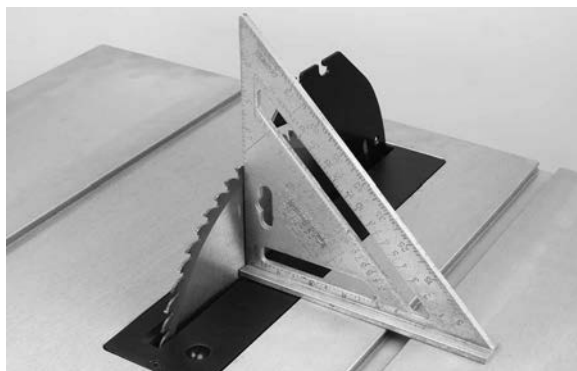

FIGURE 17
2. Place a square on the table as shown Fig.17 and check if blade is at a 90° to the table.